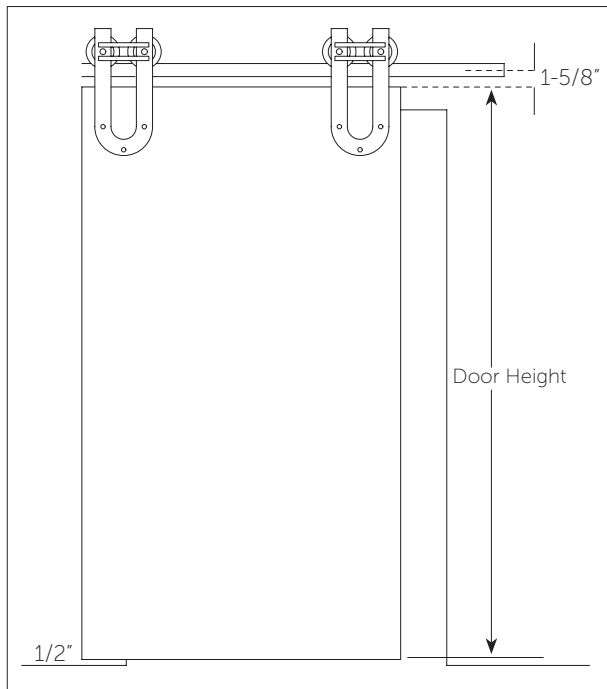

Figure 1
1. To determine where the track should be installed, first measure the height of the door, then add 2-1/8" to the door length. 1/2" will be for the clearance between the bottom edge of the door and the floor. 1-5/8" will be from the top edge of the door to the center of the track. (Figure 1).